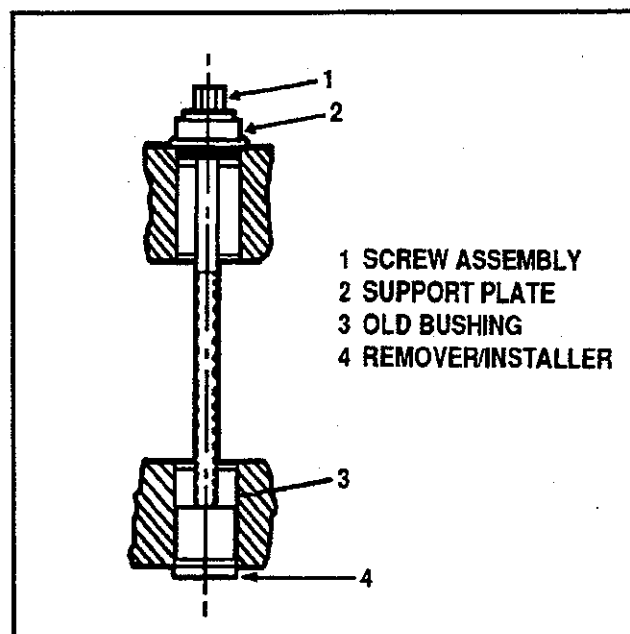

Figure 10—Bushing Removal
1. Assemble screw, support plate, and remove. (See Figure 10—Bushing Removal.)